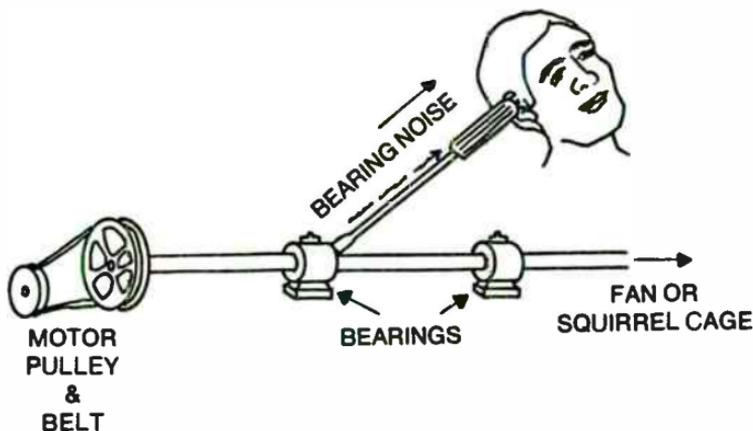

Fig. 9-10. Use a long screwdriver as a stethoscope to detect bad bearings.
**Bearings**—Bearings that are worn or dry are noisy and produce vibrations. Now when there are a number of bearings reasonably close together, it is difficult to detect which is the faulty one. A technique that can be used is an old mechanic's trick (Fig. 9-10). Take a long screwdriver and hold the blade against the bearing in question, and put the handle to your ear.